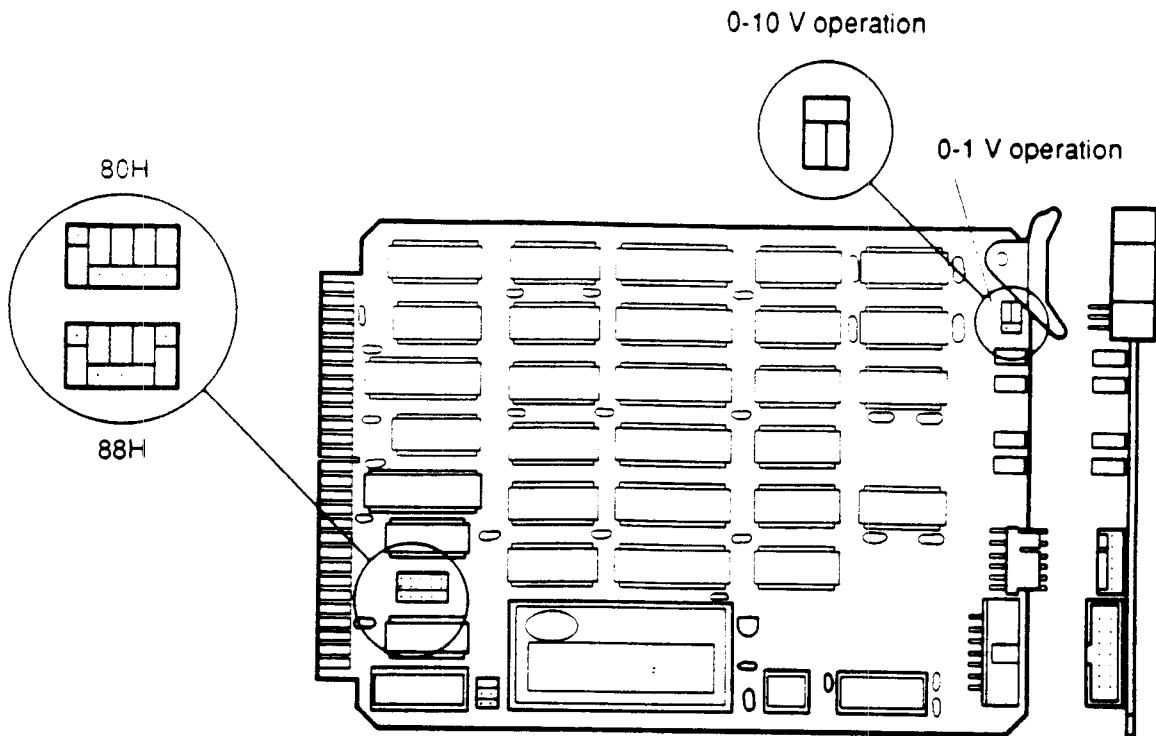

Fig. 4.2. System Interface A/D card.
5. Orient the card so that the component side faces you, and the lettering on the card surface reads right side up. Locate configuration jumper group W2 in the upper right area near the card ejector (Figure 4.2 System Interface Data Card). The right-hand half of W2 is for data 1 or 3; the left-hand half is for data 2 or 4.